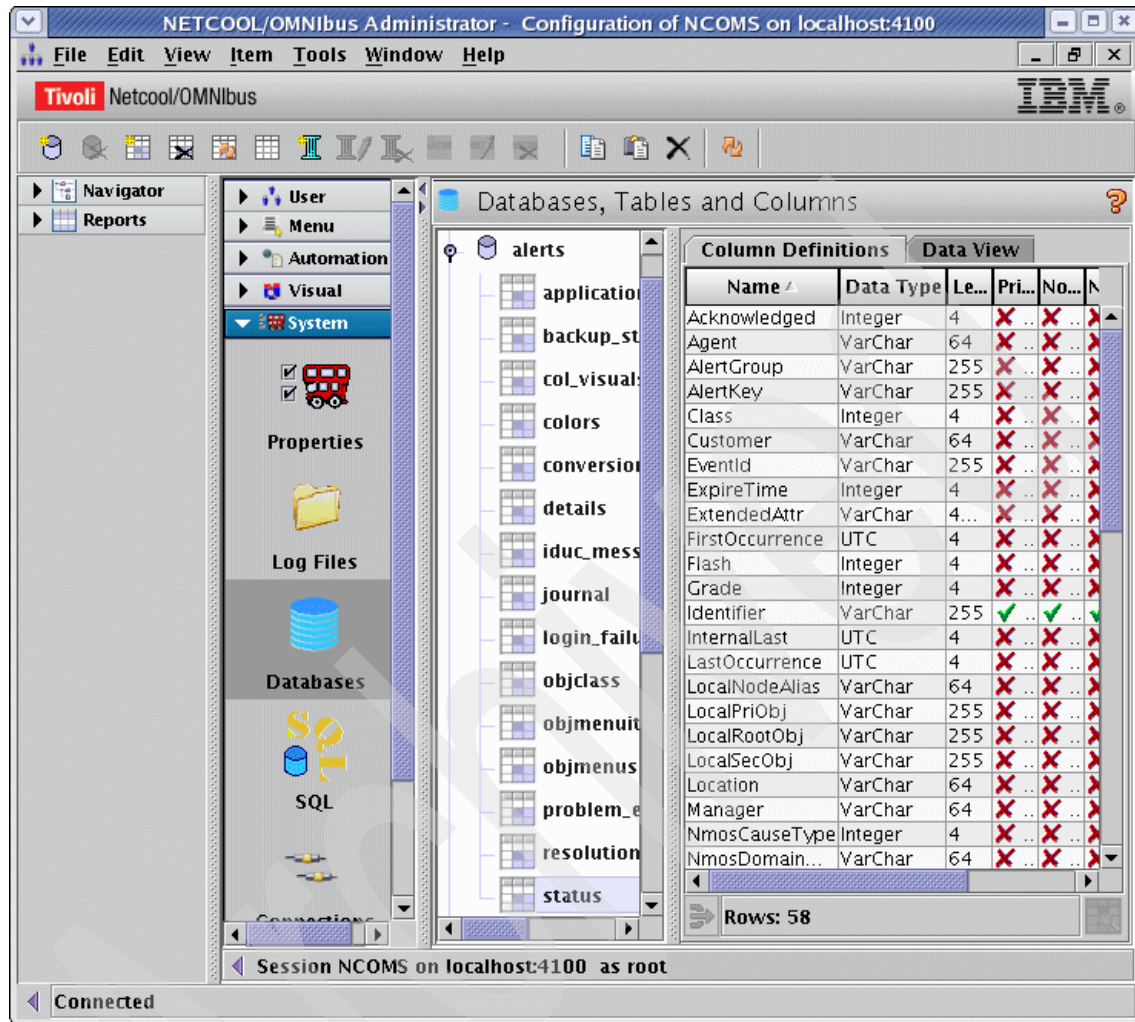

Figure 4-34 Administrator console system console
3. Expand **Databases** → **alerts** → **Status**, as shown in Figure 4-34 on page 129